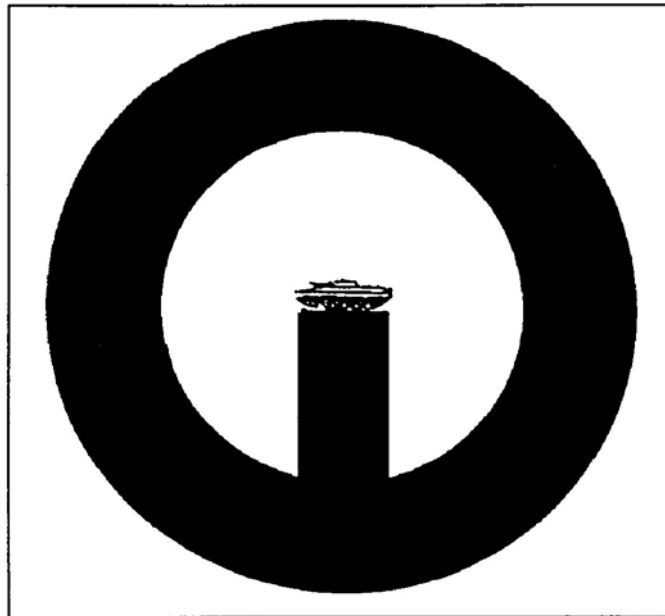

Figure 7. Correct sight picture.
- b. Sight picture. Place top center of front sight blade at bottom center of intended target (Figure 7).